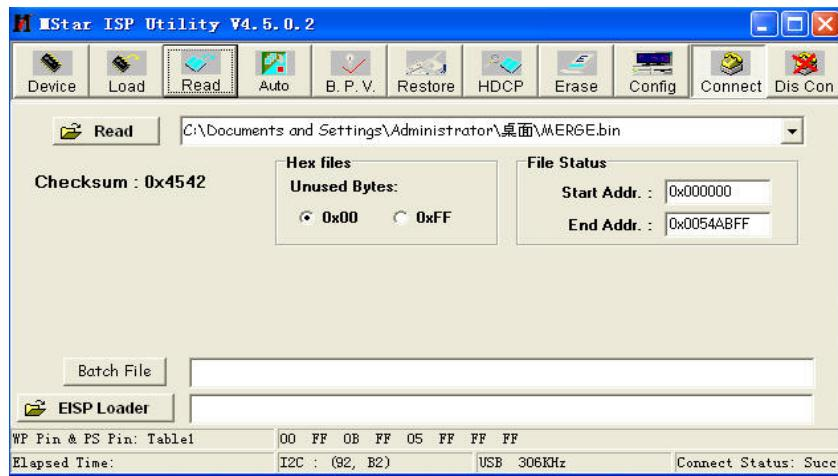

Fig. 4 Burning file
- 4) Press key “Read”, select burning file (for example MERGE.bin) as Fig. 4.
- 6) Press key “Run” as Fig. 4 to begin burning software, there are two steps for the process: **Erase** and **Program**